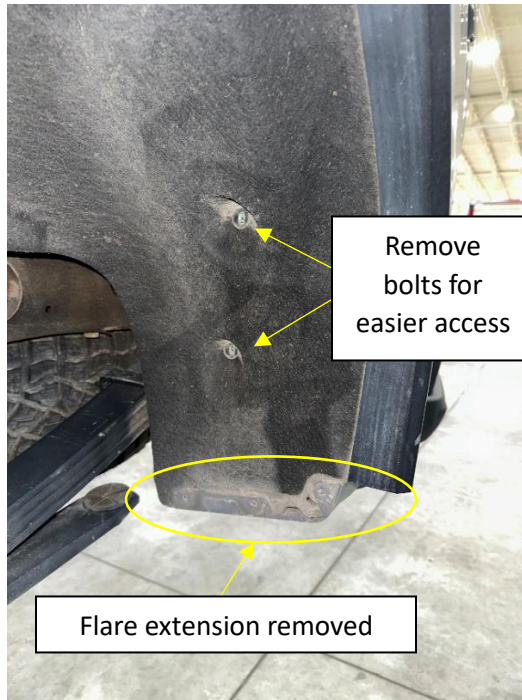

Figure 1
1. Remove your rear flare extensions (Figure 1). This is best achieved using a ratchet wrench with a T15 attachment. Your wheels do not need to be removed, however this would provide ample area to work with.
- a. Remove the 2 m4.2 wheel liner bolts directly above the flare extension. This will allow you to pull back the wheel liner to access the fender area you need to work in (Figure 1).